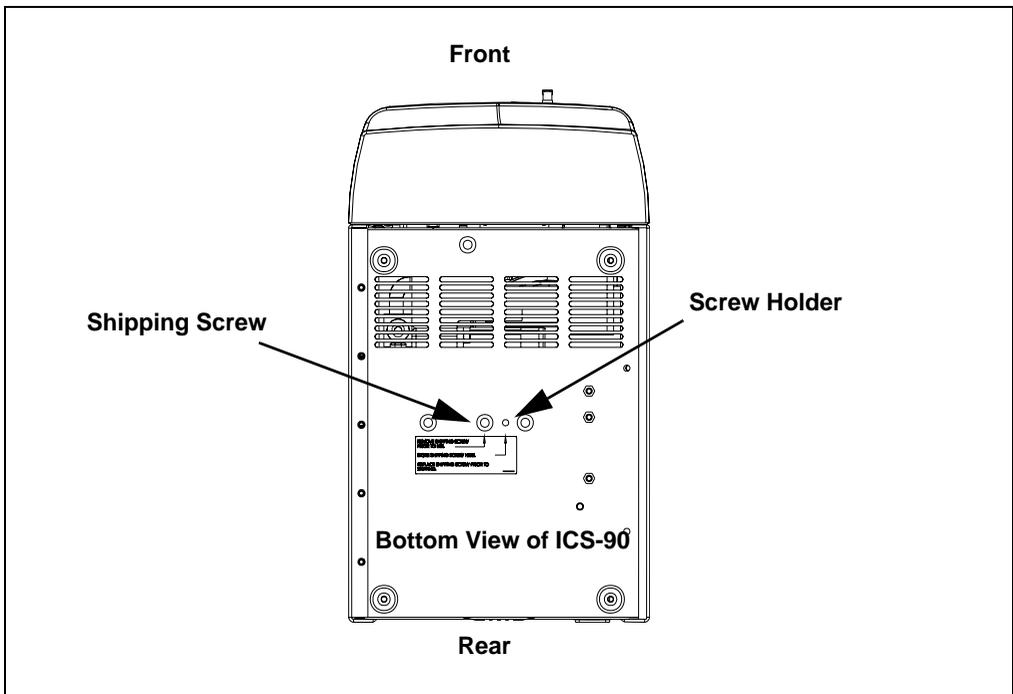

Figure 1-1. Pump Shipping Screw Removal
2. Locate the middle screw on the bottom of the ICS-90 (see Figure 1-1). This screw secures the pump in place during shipment.
4. A screw holder is located to the right of the screw (see Figure 1-1). Place the screw in the holder for safekeeping. You will need to reinstall the screw if the ICS-90 is shipped to another location.